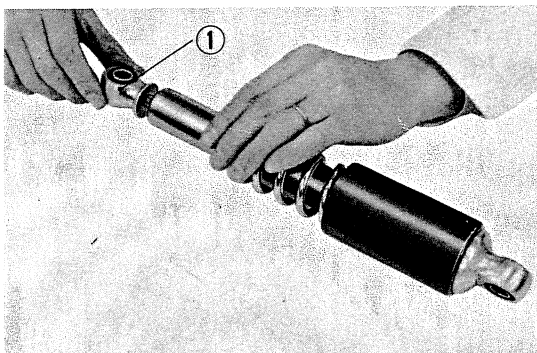

Fig. 137 Rear shock absorber disassembly
① Bottom metal
- 3) Remove the rear shock absorber bottom metal and then separate the spring and upper case (Fig. 137)